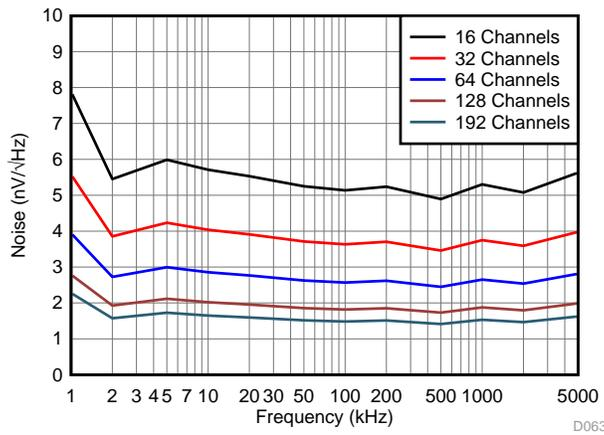

Figure 6. Allowed Noise on the V_{CNTL} Signal Across Frequency and Different Channels
- Noise requirements: Noise at the V_{CNTL} pins must be low enough to obtain good system performance because this noise is correlated across channels. Also, the V_{CNTLM} and V_{CNTLP} circuit achieves low noise to prevent the V_{CNTLM} and V_{CNTLP} noise being modulated to RF signals. V_{CNTLM} and V_{CNTLP} noise is recommended to be below 25 nV/√Hz at 1 kHz and 5 nV/√Hz at 50 kHz. In high-channel count premium systems, the V_{CNTLM} and V_{CNTLP} noise requirement is higher as shown in Figure 6.